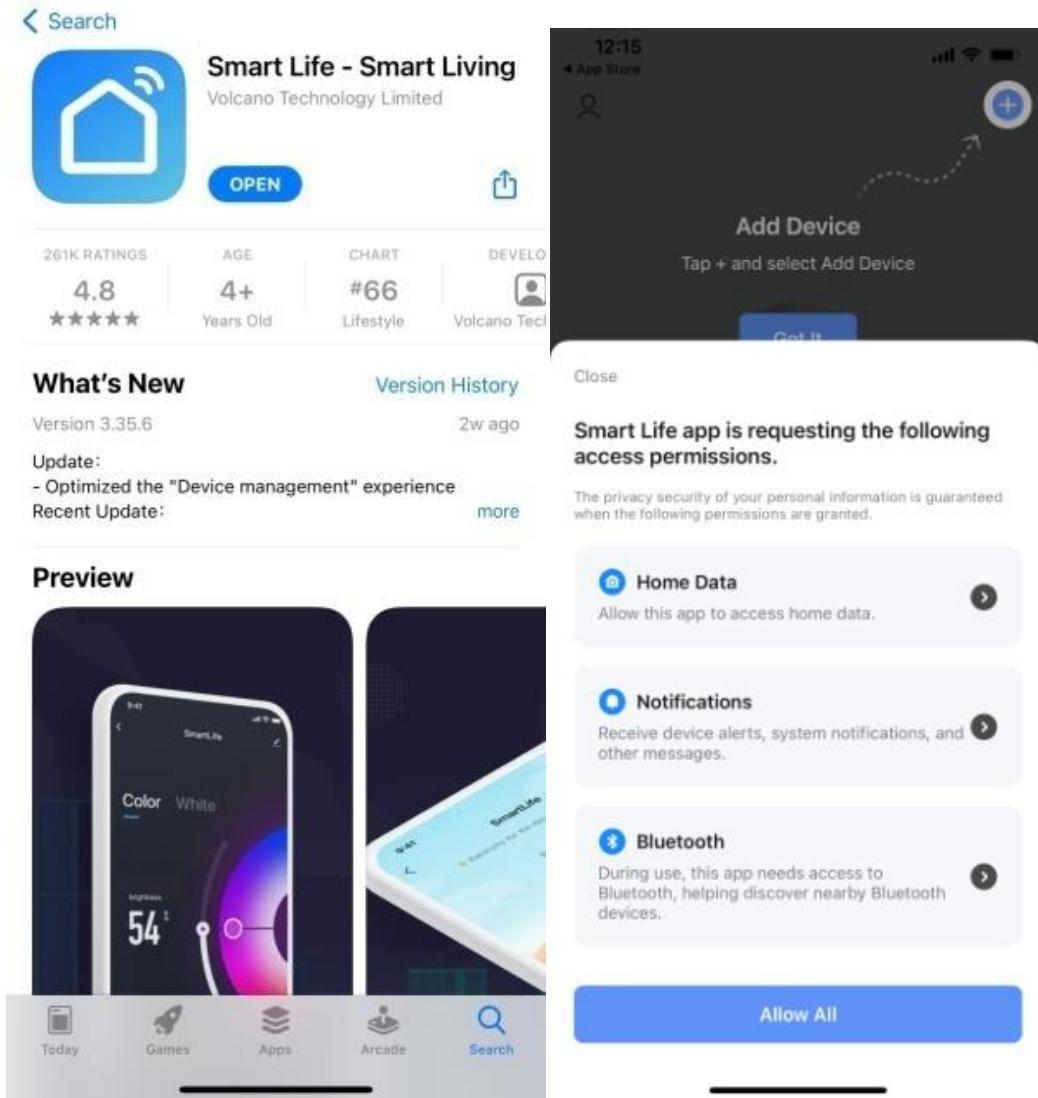

Figure K-1
(1) Step 1---earch “Smartlife” APP, download and register and log in. (See Figure K-1)